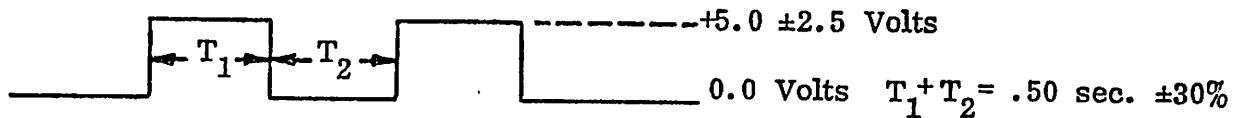

Figure 6. Wave Form at TP 4.
- b. With the circuits configured as shown in Figure 5, the voltage at J1-02 shall be as in wave form shown in Figure 6.